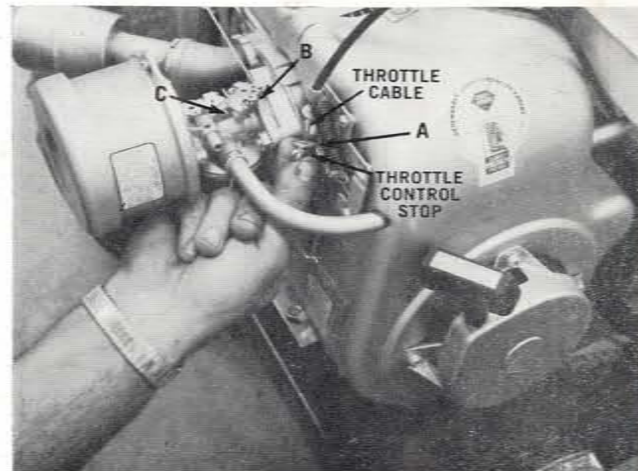

Figure 4
13. Push lever (A) up until lever (B) moves out away from idler screw (C). Secure throttle control stop on throttle control wire at this point. See Figure 4.